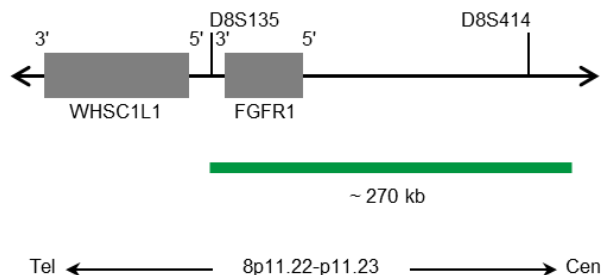

Fig. 1: SPEC FGFR1 Probe map (not to scale)
- Digoxigenin-labeled polynucleotides (~1.1 ng/μl), which target sequences mapping in 8p11.22-p11.23* (chr8:38,255,843-38,527,745) harboring the FGFR1 gene region (see Fig. 1).